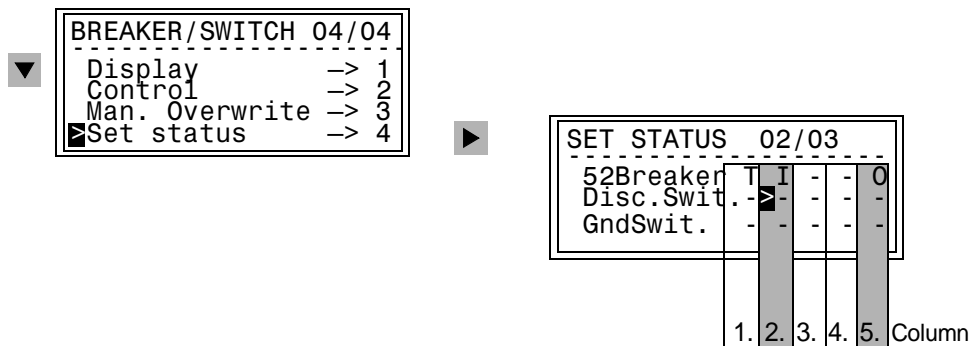

Figure 7-50 Set Status at the Front Panel
Select the item **Set Status** with the **▼** key and switch to the next option using the **▶** key. **SET STATUS** appears, as shown in Figure 7-50.
The example in Figure 7-50 shows the position for the circuit breaker (52) was tagged (T) after the input ignore (I) was set, which means the message input was de-coupled from the system. The output block is active (O), so the command output is also de-coupled from the system. For the disconnect switch and the ground switch, no limitations are set.